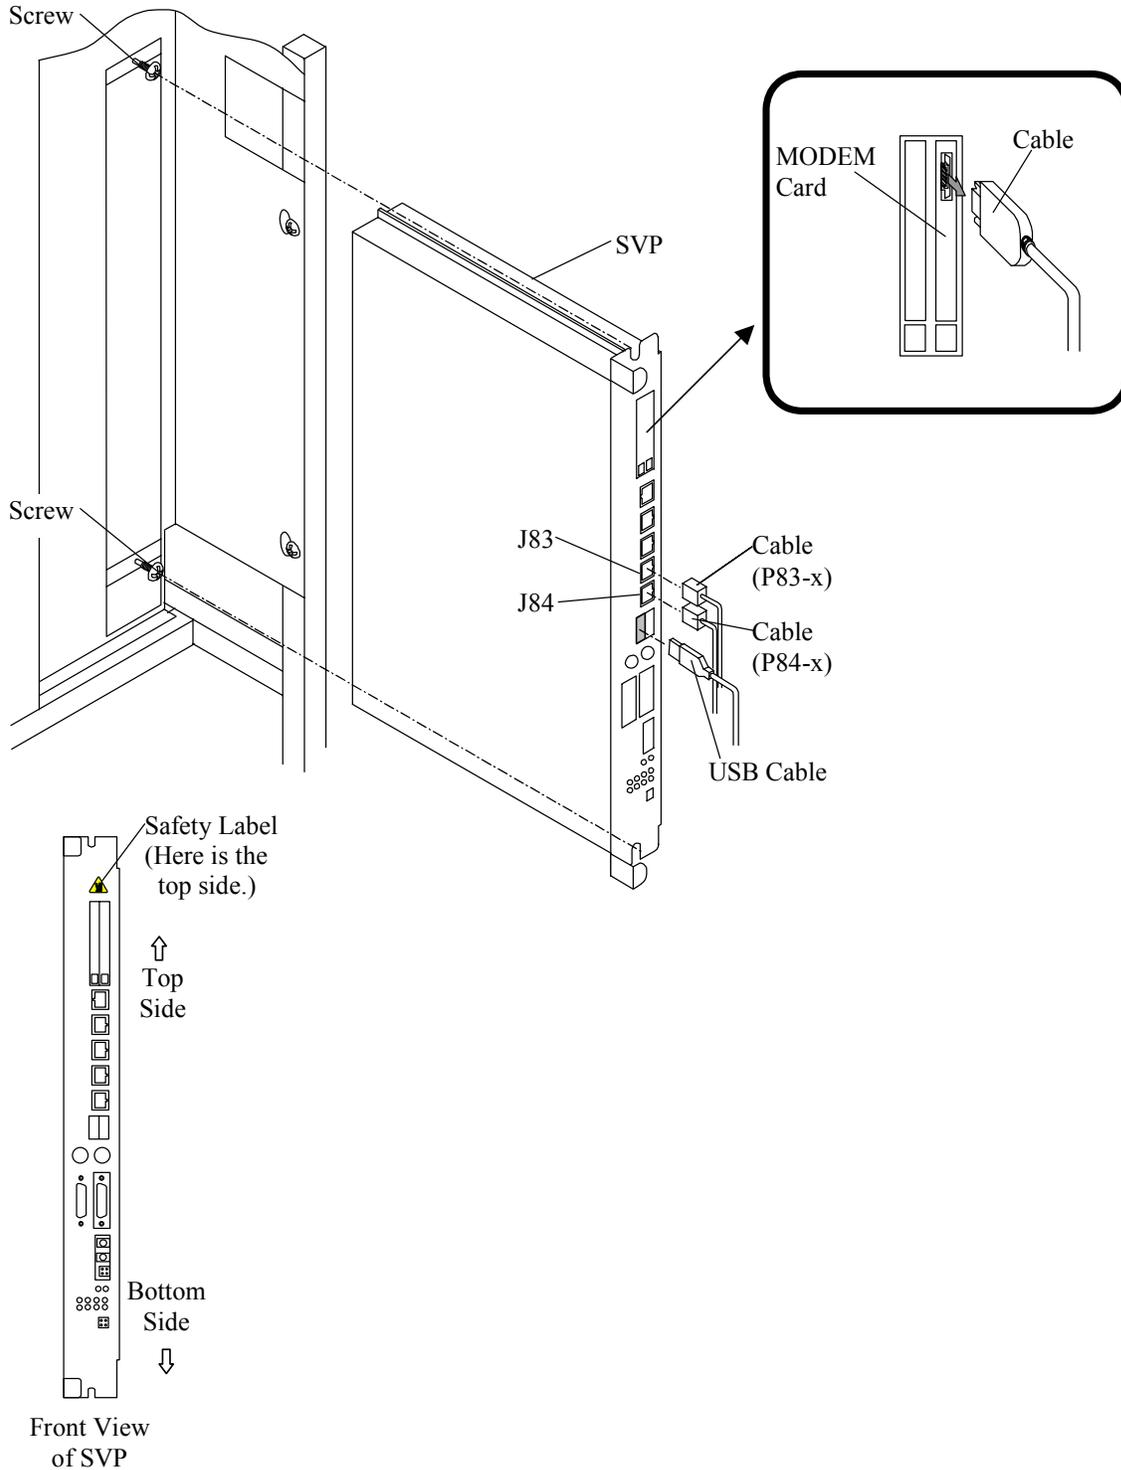

Fig. T7.1-4 Removal of SVP
- a. Install the spare SVP and fasten the two screws. (Refer to Fig. T7.1-4.)